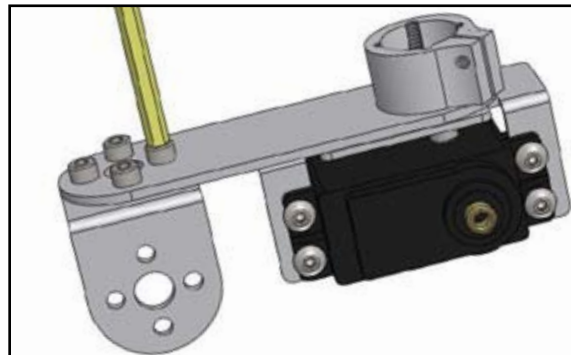
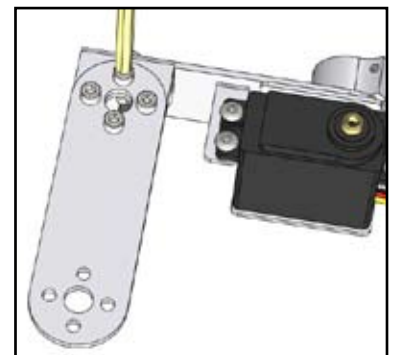

Figure D3
Figure D4
- 4) Using four screws and kep nuts, attach an L bracket to the other end of the flat bracket (Figure D3). One side of the L bracket should extend from the top of the flat bracket. Now, attach another flat bracket straight out from the top of the L bracket (Figure D4).